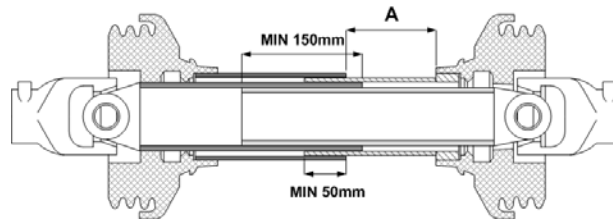
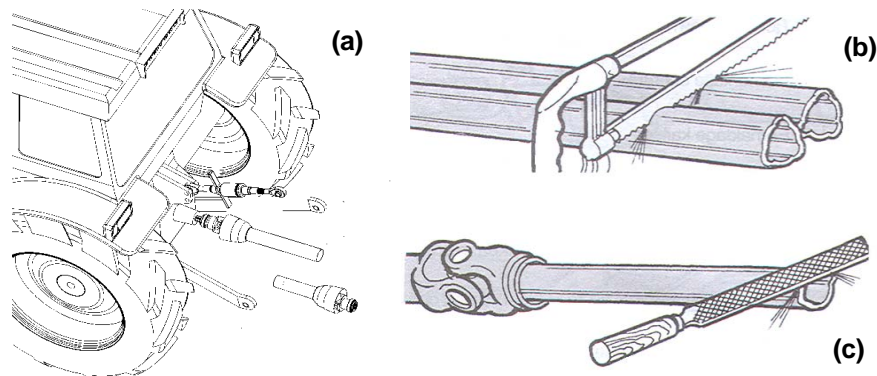

Figure 4.2
Figure 4.3
**IMPORTANT:** The recommended minimum engagement of the PTO is 150mm in the working position. This measurement must be taken into account when shortening the PTO shaft. (See Figure 4.3)
- 4.5.1.2 Pre-assemble the PTO shaft and check that the drive tube overlap is not less than 150mm, see Figure 4.2 and Figure 4.3 a.
- 4.5.1.3 Check that the minimum overlap of the shaft guards is not less than 50mm, see Figure 4.2.
- 4.5.1.4 If the overall PTO length is likely to reduce during operation then ensure that at its minimum there is at least 40mm movement left between the guards, see dimension 'A' in Figure 4.2.
- 4.5.1.5 If the PTO needs to be shortened, cut both tubes as both halves must be shortened equally, see Figure 4.3 b.